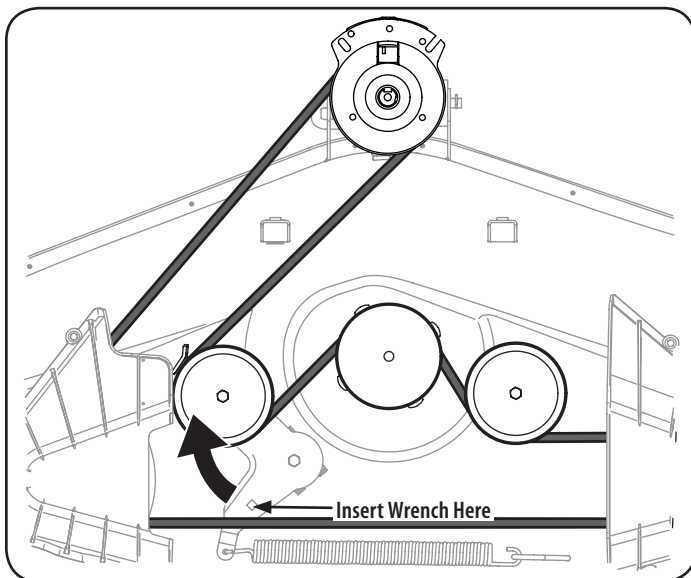

Figure 28
- c. Working on the right side of the tractor, insert a $\frac{3}{8}$ " drive ratchet wrench, set to tighten, into square hole found on the idler bracket. See Figure 28.
2. Use the wrench to pivot the deck drive pulley forward. See Figure 28.